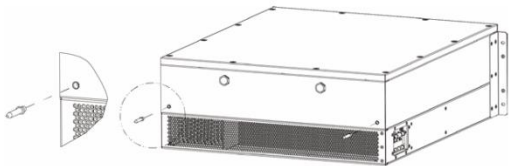

Figure 5-4 Fix the guide pin
Step 1: Install the guide pin from the accessories in the package to the converter. The recommended torque is 10N·m, as shown in Figure 5-4.